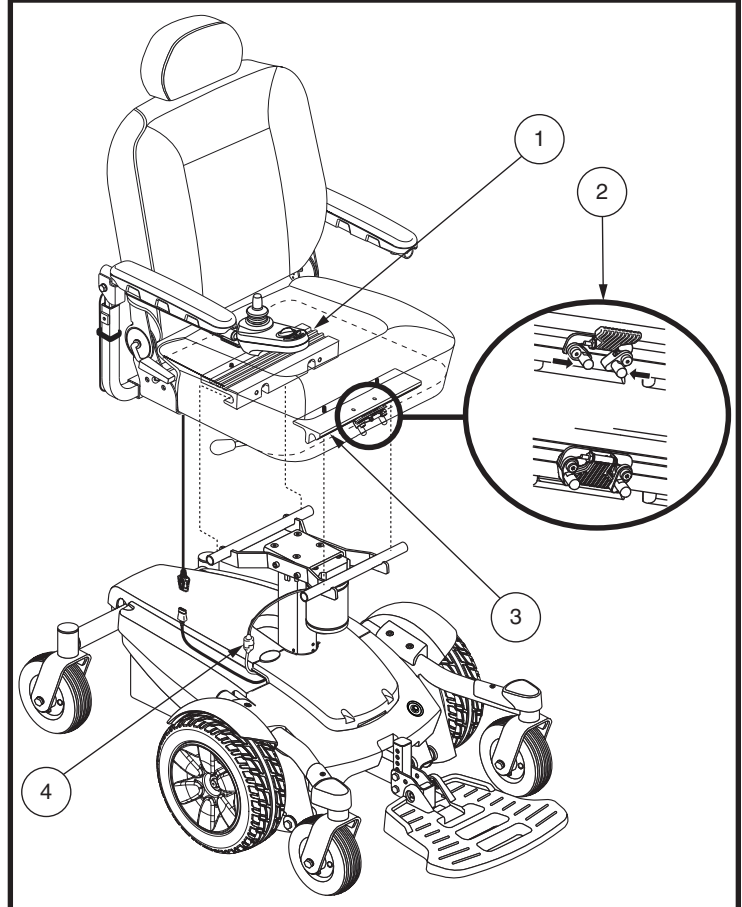

Figure 10. Universal Mounting System on Select 6 with Power Seat
It may be necessary to install the seat either prior to initial operation or after transporting your power chair. Most seats are attached to the power base with the Universal Mounting System (UMS). The UMS consists of universal parts that may be attached to any medium-back or high-back seat, regardless of seat width or seat depth. The two main components are aluminum extrusions mounted to the seat base. These extrusions attach to a pair of trapeze bars that are mounted to the power base. See figure 10.
4. Connect the power seat connector to the power base. See figure 10.